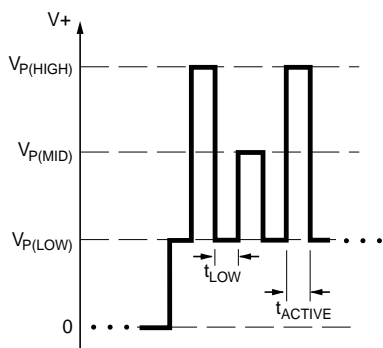

Figure 4. Parameter selection pulse train. This shows the sequence for selecting the register corresponding to key 1, indicated by a single V_{PM} pulse.
Each programmable parameter can be accessed through a specific register. To select a register, a sequence of voltage pulses consisting of a V_{PH} pulse, a series of V_{PM} pulses, and a V_{PH} pulse (with no V_{CC} supply interruptions) must be applied serially to the VOUT pin. The number of V_{PM} pulses is called the *key*, and uniquely identifies each register. The pulse train used for selection of the first register, key 1, is shown in figure 4.